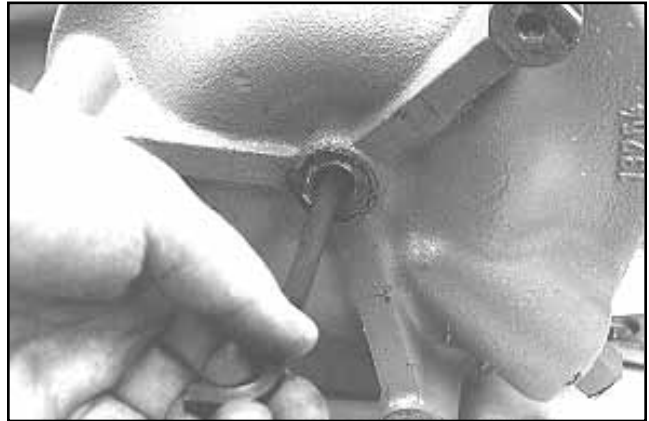

Figure 9
3. Remove plug from bottom of housing and use a 1/4" Allen wrench to remove the adjusting screw, Figure 9.